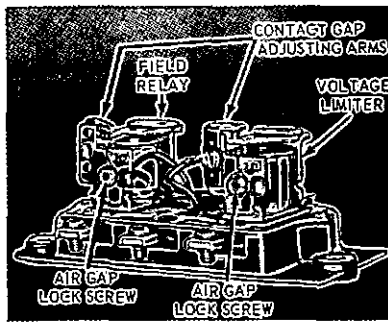

Fig. 16 – Leece-Neville
**VOLTAGE LIMITER** — Adjust the contact gap first. Loosen the contact-gap adjusting arm lock screw (Fig. 16), and adjust the contact gap to 0.018 — 0.020-inch. Tighten the lock screw. Adjust the core gap with the lower contacts closed. Loosen the core gap lock screw and move the contact insulator up or down until the core gap is 0.042-0.052-inch between the coil core and the armature. Tighten the lock screw.
**FIELD RELAY** — Adjust the core gap first. Loosen the field relay air gap lock screw (Fig. 16), and move the contact insulator up or down until the core gap between the coil core and the armature is 0.009-0.011-inch on regulators used with an indicator light circuit and 0.011-0.013-inch on regulators used with an ammeter circuit. Tighten the lock screw. Put the blade of a small screw driver in the field relay adjusting arm slot, and bend the arm to obtain a contact of 0.018-0.020-inch on regulators used with an indicator light circuit, and 0.024-0.026-inch on regulators used with an ammeter circuit.